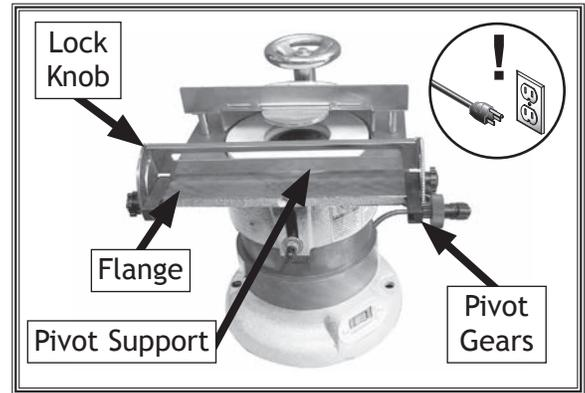

Figure 8. Pivot support installed.
2. Loosen four lock knobs on the sides of pivot support, then slide support flanges onto table, as shown in **Figure 8**.